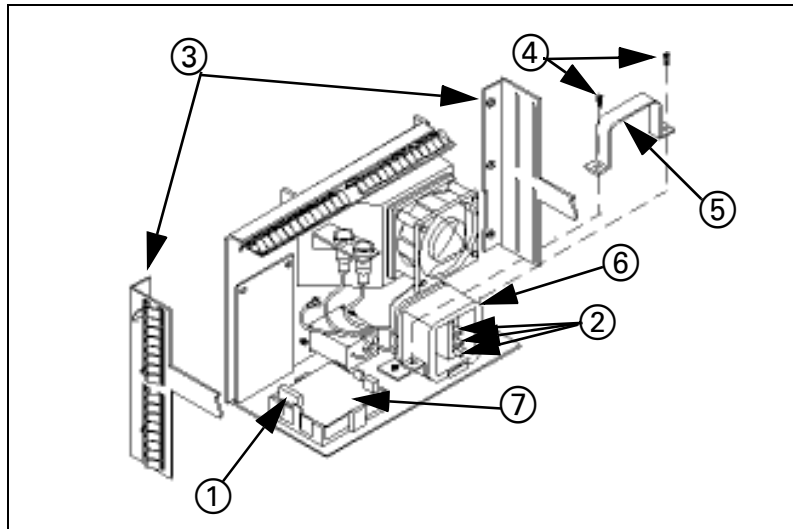

Figure 3-6 Rear Panel Subassembly
9. Unplug 26 conductor flat cable from O₂ sensor board (① in Figure 3-6).
10. Note scheme for connecting tubing to O₂ sensor (so that tubing can be properly reconnected to replacement sensor) and disconnect tubing from sensor (② in Figure 3-6).
11. Slightly spread rear sides of main chassis (③ in Figure 3-6) while pulling rear panel towards rear.
12. Remove screws (④ in Figure 3-6) from clamp (⑤ in Figure 3-6) holding O₂ Sensor to bracket on chassis.
13. Remove O₂ Sensor (⑥ in Figure 3-6) and Sensor PCB (⑦ in Figure 3-6) from Rear Panel Subassembly.